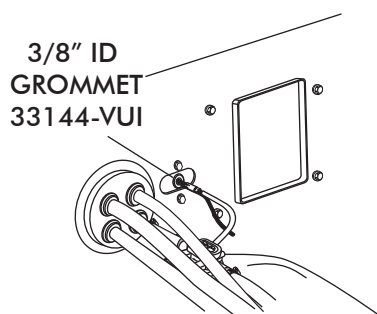

FIGURE 21a
- ☐ INSTALL 3/8" ID GROMMET (SEE FIGURE 21a, BELOW).
- ☐ ROUTE A/C WIRES THROUGH 3/8" ID GROMMET AS SHOWN IN FIGURE 21a, BELOW (12 VOLT/GROUND/BINARY SWITCH/HEATER VALVE).